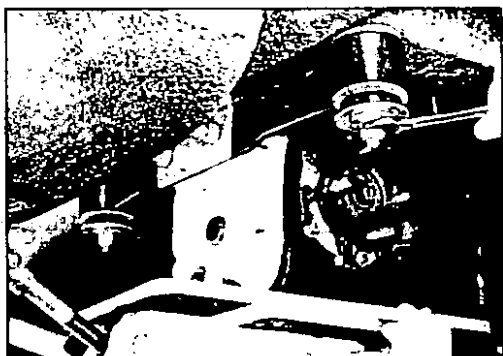

Fig. G.3 Removing the differential mounting member.
2. Support the differential with a jack and remove the nuts securing the differential mounting crossmember (Fig.G.3.)